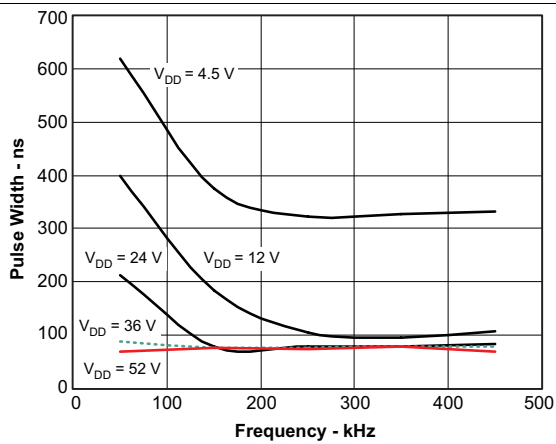

Figure 21. Minimum Controllable Pulse Width vs Frequency
(2) See Figure 21 for for  $t_{MIN}$  vs  $f_{OSC}$  at various input voltages.